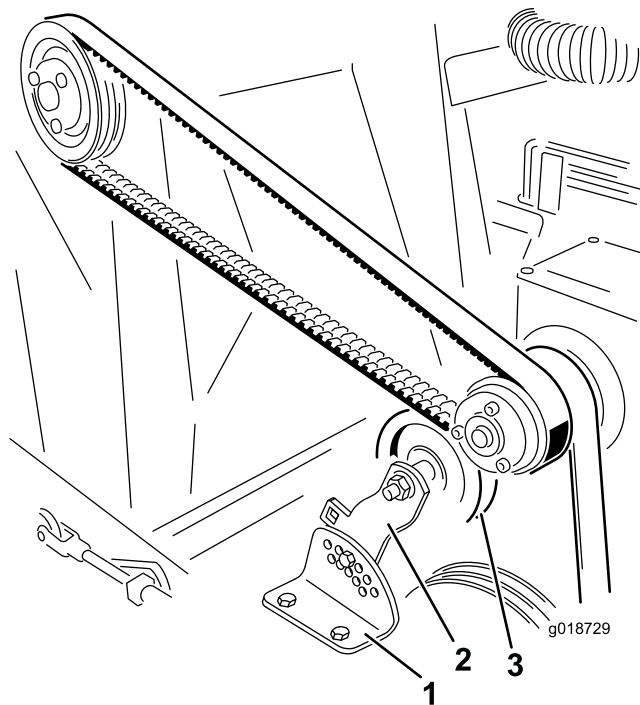

Figure 23
2. Remove the nut and bolt securing the idler pulley bracket to the tension adjusting bracket (Figure 23).